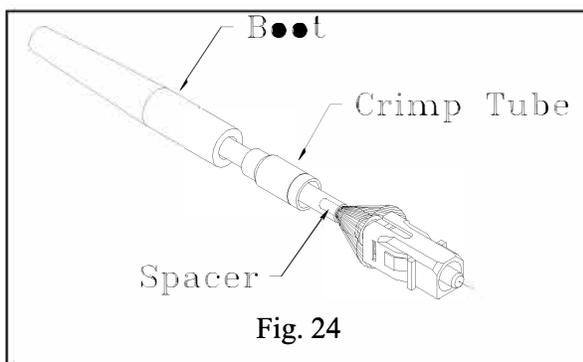

Fig. 22
Step 7 Hold the connector and maintain pressure and slowly inject epoxy. The moment epoxy is visible at the tip of the ferrule, release pressure on the plunger. Move the syringe tip approximately 1~2mm from the mark of the connector and continue injecting appropriate epoxy. Release the pressure on the plunger and stop injecting epoxy. Withdraw the syringe tip straight back. See Fig. 21 and Fig. 22.